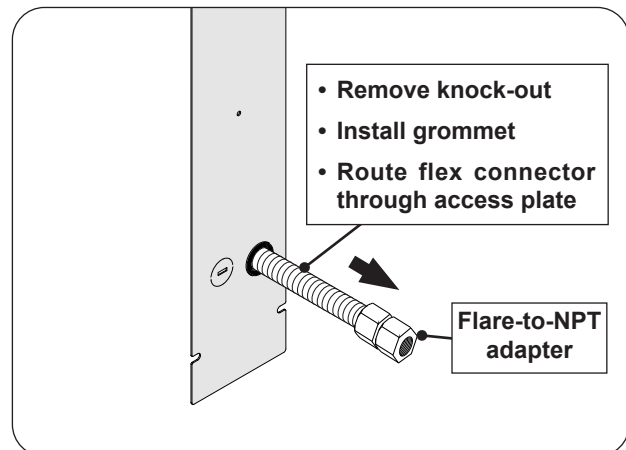

Fig. 17-3 Route gas supply (above ground)
2. Remove the plastic grommet (attached to the flex connector) and insert it into the newly created opening. Then route the flex connector through the opening. See Fig. 17-3.